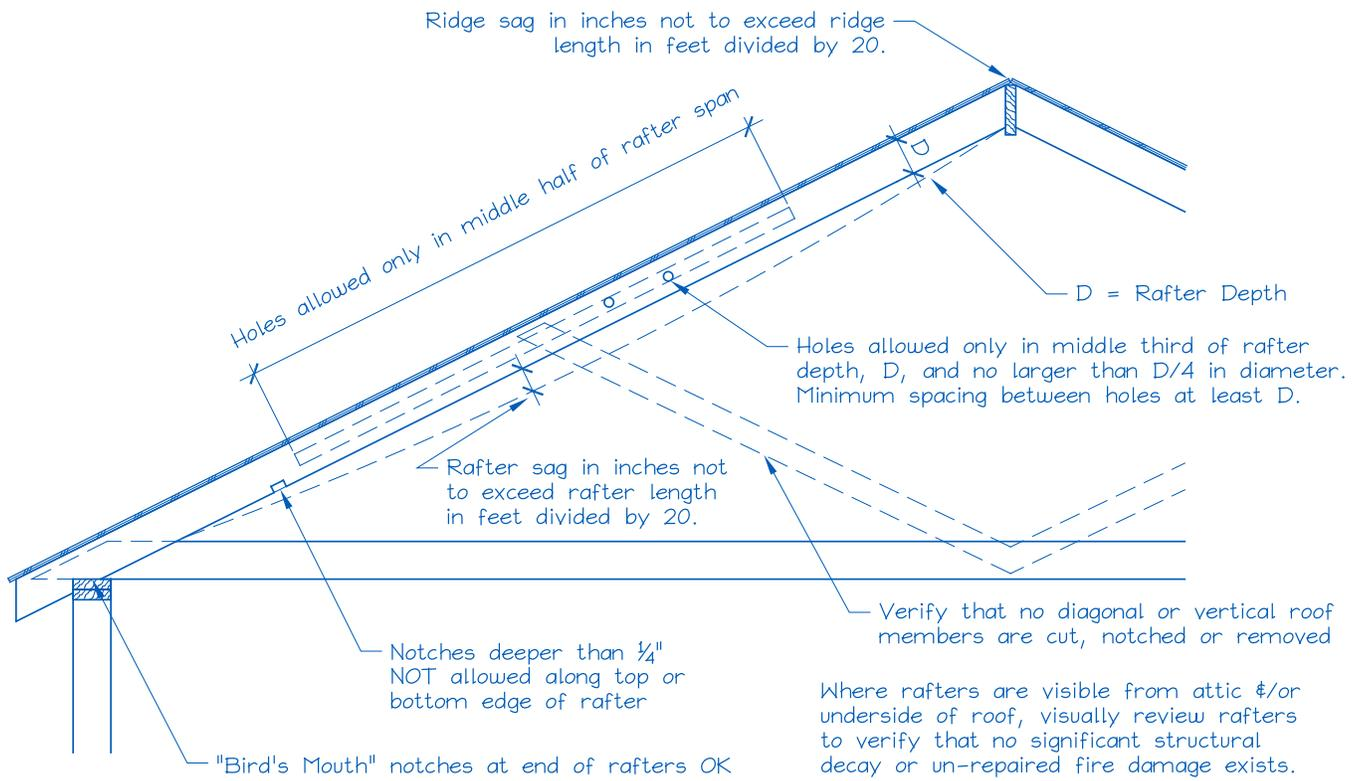

Figure 1. Roof Visual Structural Review (Contractor's Site Audit) of Existing Conditions.
- 2) Does the roof structure appear structurally sound, without signs of alterations or significant structural deterioration or sagging, as illustrated in Figure 1? Y N